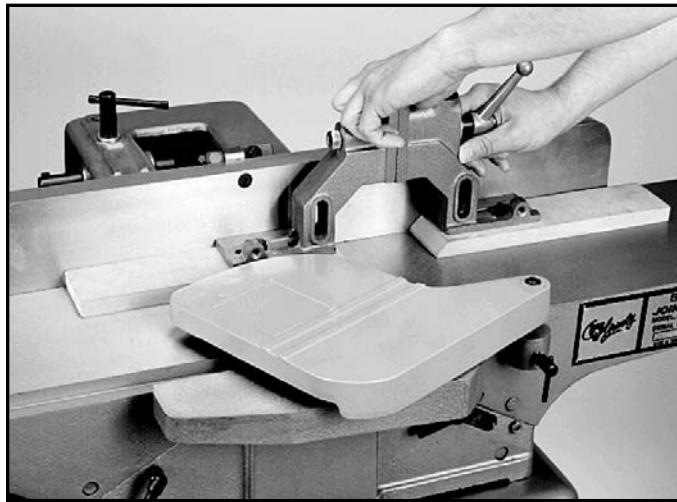

Figure 6
3. If the boards are not co-planar with each other, resurface the wooden fences as one unit. You can perform this operation on a jointer. See Figure 6.